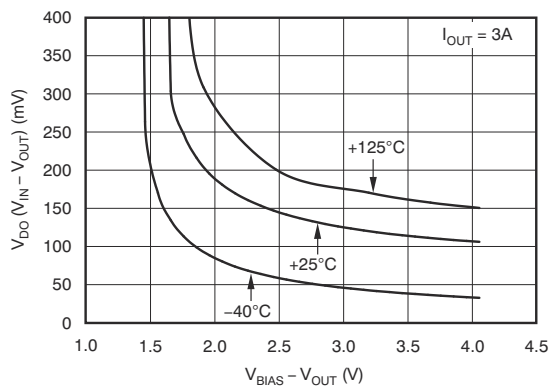

Figure 5-11.  $V_{IN}$  Dropout Voltage vs  $V_{IN}$  Dropout Voltage vs  $I_{OUT}$  and Temperature ( $T_J$ )
- (1) Adjustable devices tested at 0.8 V; resistor tolerance is not taken into account.
- (2) Dropout is defined as the voltage from  $V_{IN}$  to  $V_{OUT}$  when  $V_{OUT}$  is 3% below nominal.
- (3) 3.25 V is a test condition of this device and can be adjusted by referring to Figure 5-11.